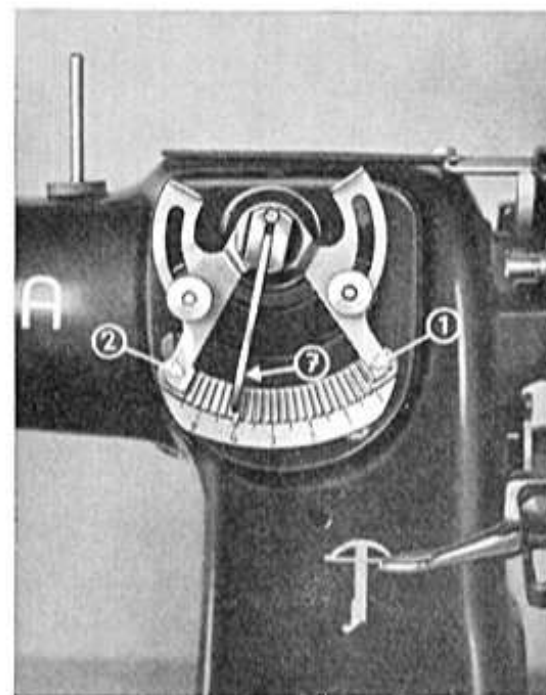

Fig. 18
For zigzag sewing the machine is set according to directions 1 to 5 for plain sewing on page 14. While for ordinary stitching the zigzag adjusting lever 7 (Fig. 18) always remains on zero position, said lever is turned to the left when zigzag sewing, namely from 0 to 5, according to the desired width of the zigzag seam. The more lever 7 is turned to the left, the wider the zigzag stitch will be. Never turn lever 7 when the machine is stopped and the needle is stitched in the fabric. While sewing, however, lever 7 may freely be turned. For zigzag sewing do not use 6 ply cotton, but only 2 or 3 ply cotton.
4. Set zigzag adjusting lever 7, Fig. 10, on No. 2 $\frac{1}{2}$. Loosen fastening screw and turn right stop lever 1, Fig. 18, to the left until it comes in contact with lever 7. Fix stop lever 1 in this position by tightening the fastening screw.
8. Set zigzag adjusting lever 7 on the number corresponding to the width of the complete buttonhole and fix lever 7 with left stop lever 2, Fig. 18. Then bar the buttonhole with some stitches. In order to prevent the cloth from being pushed by the feed dog, the operator should withdraw the material a little. The last stitch must be *on the left*. The needle shall be stitched $\frac{1}{8}$ inch only into the cloth.  Last stitch on the left